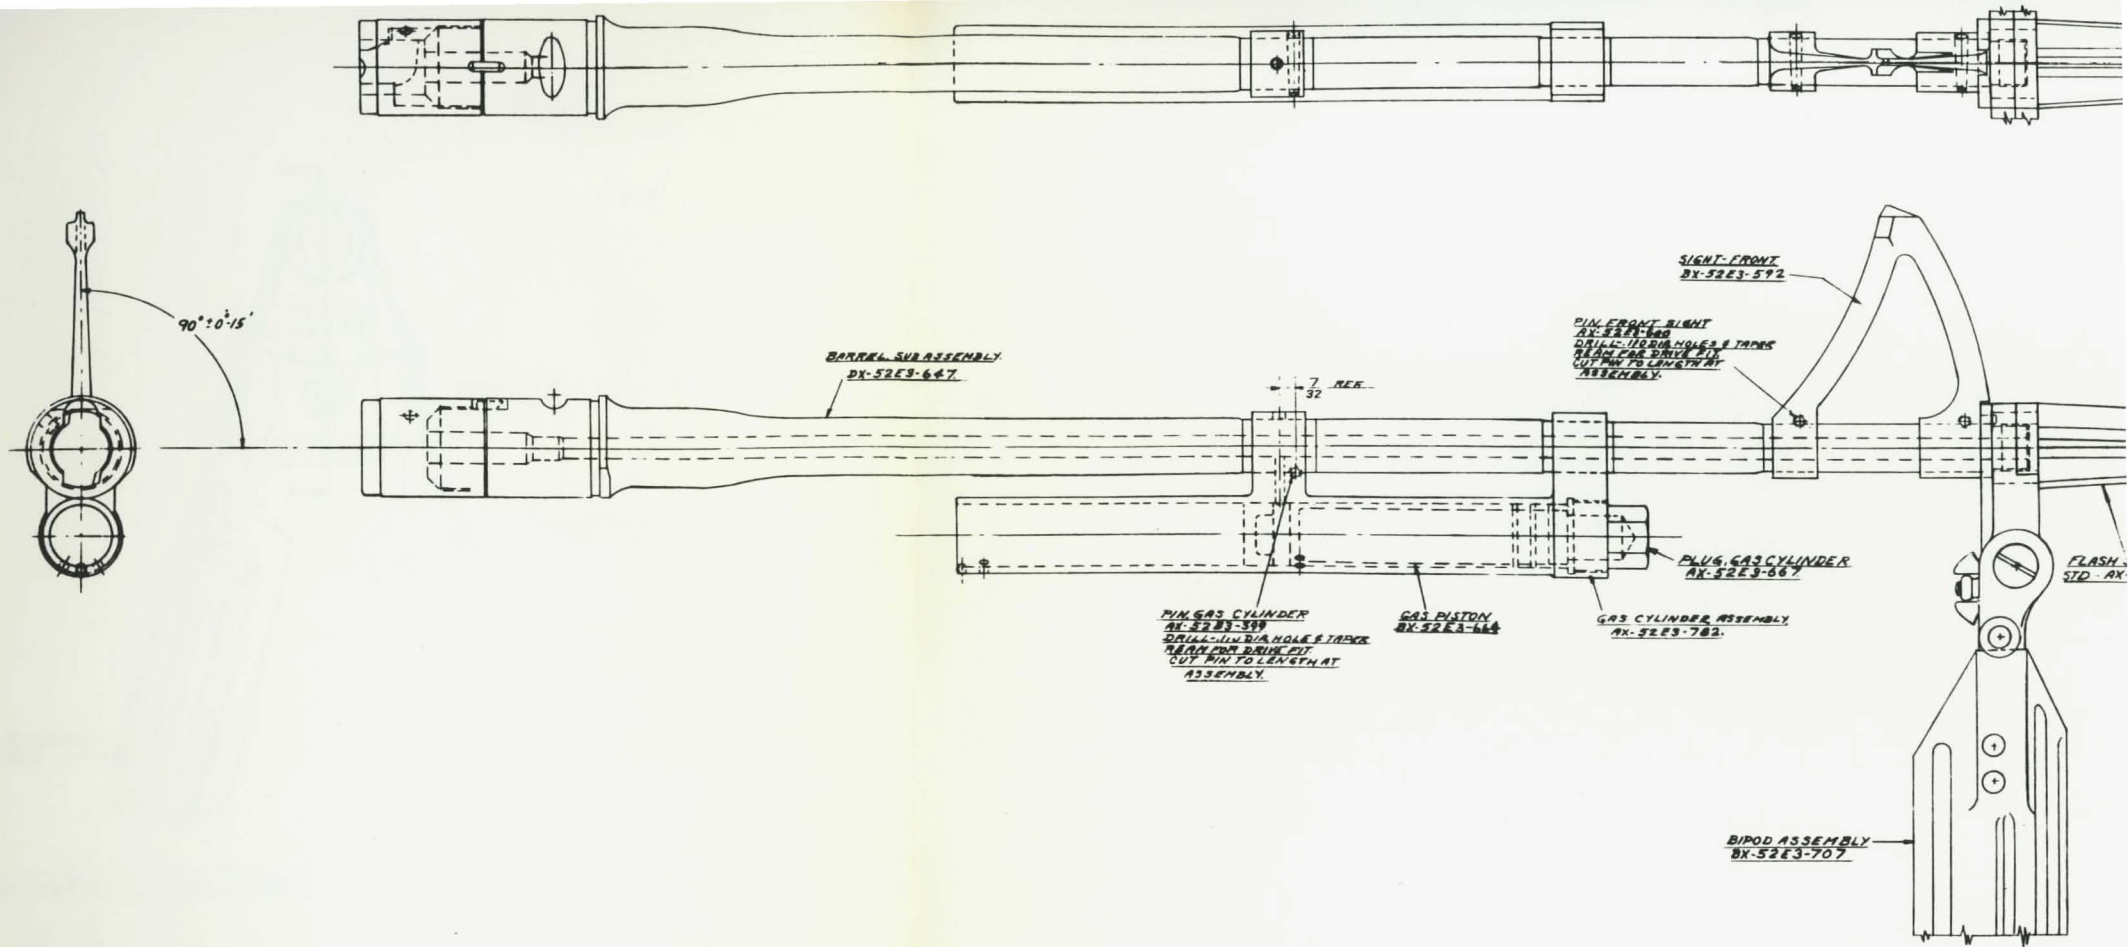

FIG. 10 - BARREL FINAL ASSEMBLY
- a. The barrel group is a unit assembly, to be taken apart only for repairs. See Fig. 10, Page 22.